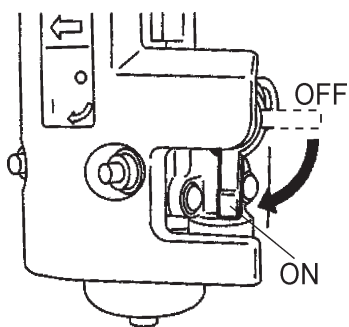

Figure 9. Engine Fuel Valve Lever (ON Position)
1. Place the engine **fuel valve lever** (Figure 9) to the "**ON**" position.